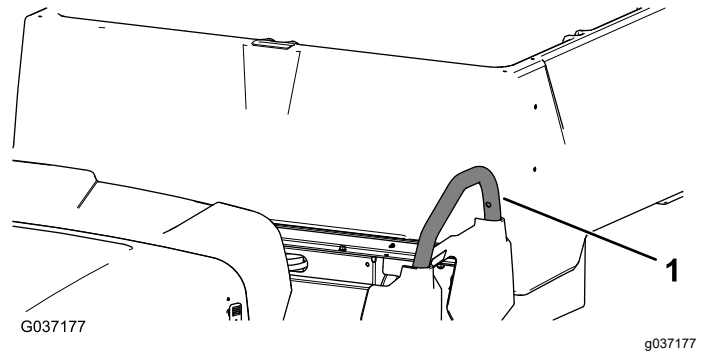

Figure 9
2. Remove the 3 screws and 3 nuts securing the left handhold, and remove it (Figure 9).
- Install the previously removed left handhold using the 3 screws and 3 nuts (Figure 9).